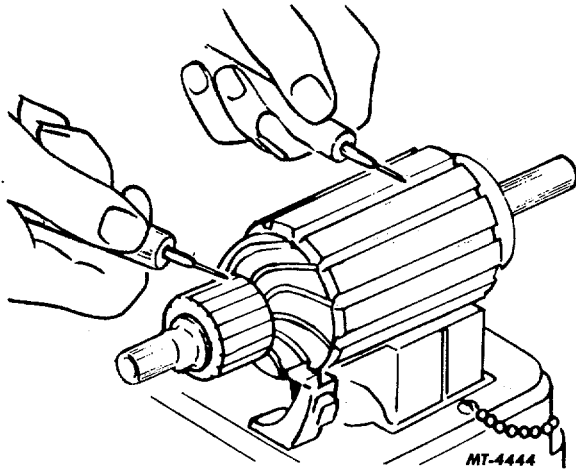

Fig. 9. Testing Armature for Grounds
- c. Grounds in the armature can be found using a test lamp and prods, Fig. 9. If the lamp lights when one prod is positioned on the commutator and the other prod on the armature core or shaft the armature is grounded.